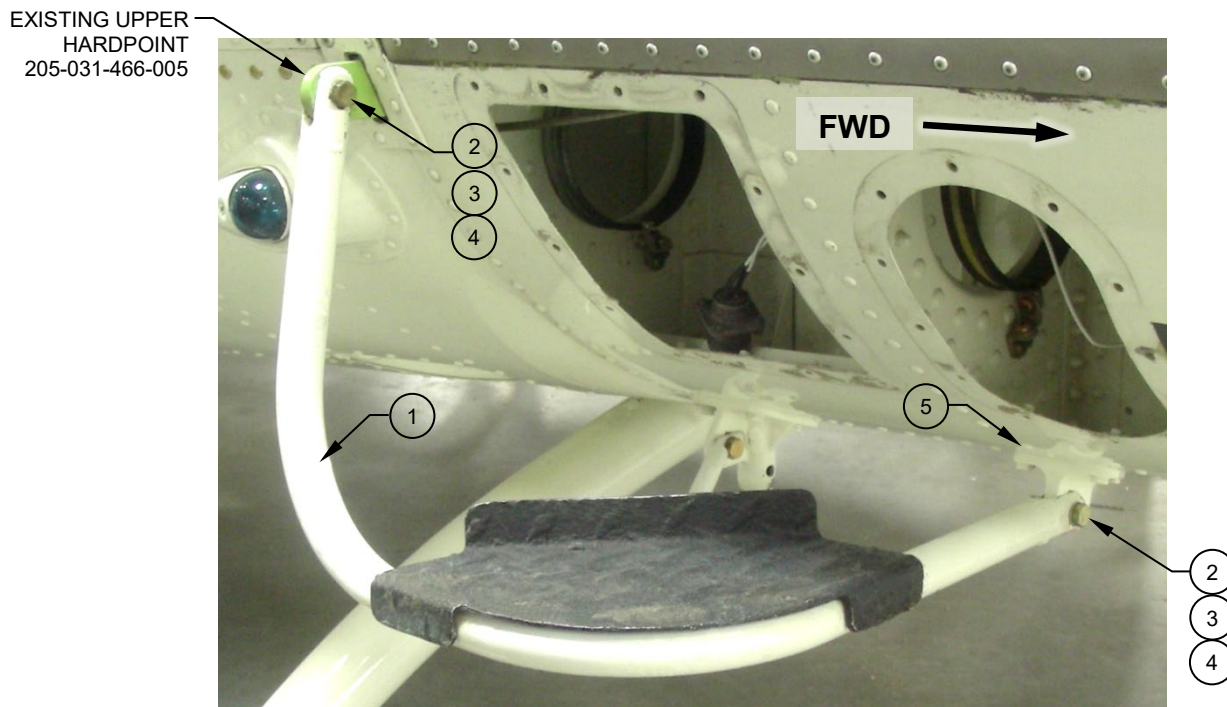

Figure 3
4. Locate Step, Assy, RHS (Item 1) into existing upper hardpoint and aluminum Support, Assy, RHS (Item 5) with bolts (Item 3), self-locking nuts (Item 4) and washers (Item 2). (Reference Figure 3). Snug bolts lightly, do not secure at this time.